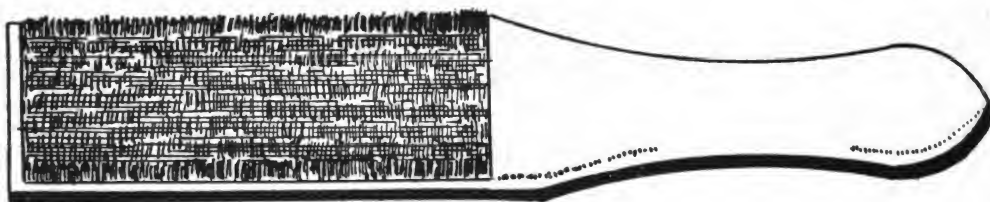

FIGURE 9.—File card.
*g.* Sometimes particles of metal collect between the teeth of a file and make deep scratches as the file is passed over the work. When these tiny particles of metal are lodged too firmly between the teeth and cannot be removed by tapping the edge of the file against the bench, they should be removed either by using a file card or wire brush which is drawn across the file in the direction in which the teeth run, or some other cleaning device. Figure 9 shows a file card. Soaking a clogged file in kerosene for a while before using a file card will make the cleaning easier.